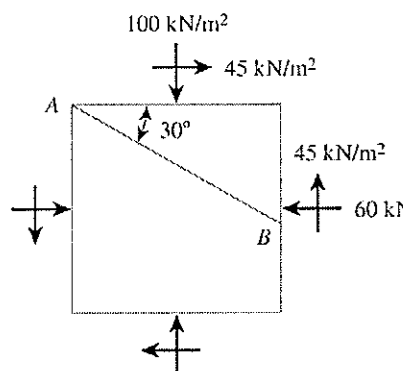

Fig. 1
- (a) The state of stress of a soil element is shown in Fig. 1. Plot the Mohr circle, pole, and principle planes. Additionally, calculate the normal and shear stresses on plane AB. (6 pts)